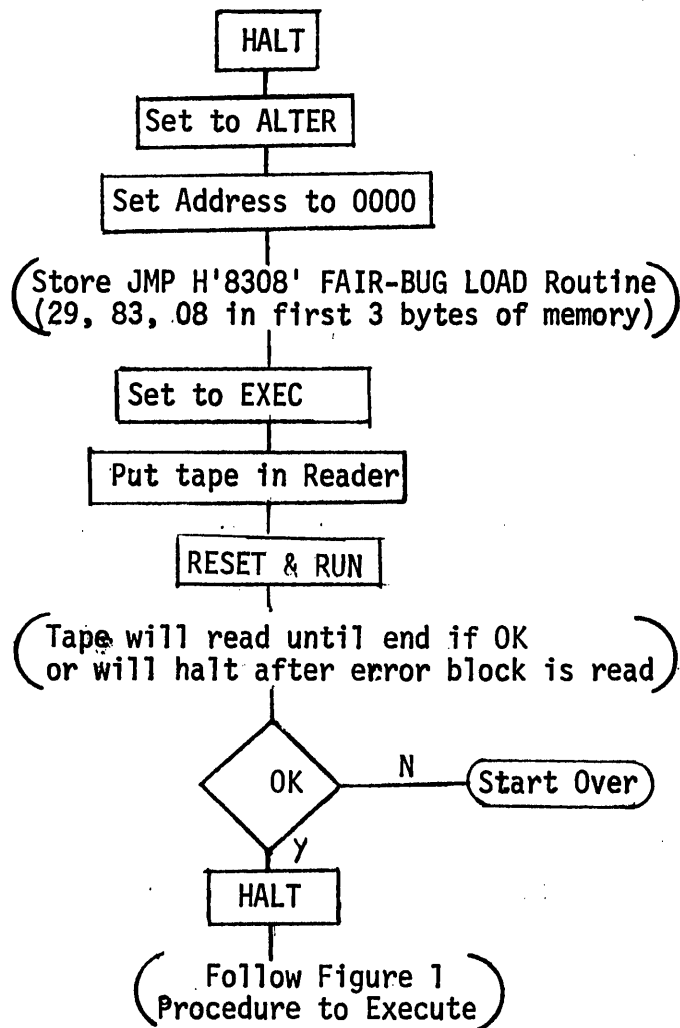

Figure 5
3.4 Loading User's Program: Figure 5 shows how to load a user's program from a high speed paper tape reader when no TTY is available for FAIR-BUG communications.